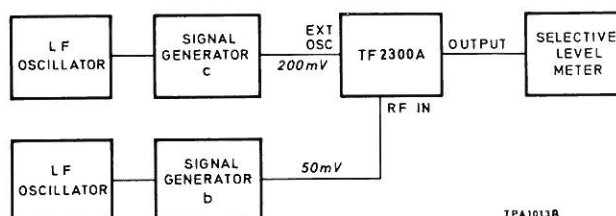

Fig. 4.5 F.M. distortion measurement
- (1) Set up the equipment as shown in Fig. 4.5. Adjust c to give a c.w. output of 200 mV at any convenient frequency Fc1. Adjust b to give a c.w. output of 50 mV at frequency (Fc1 - 1.5 MHz).